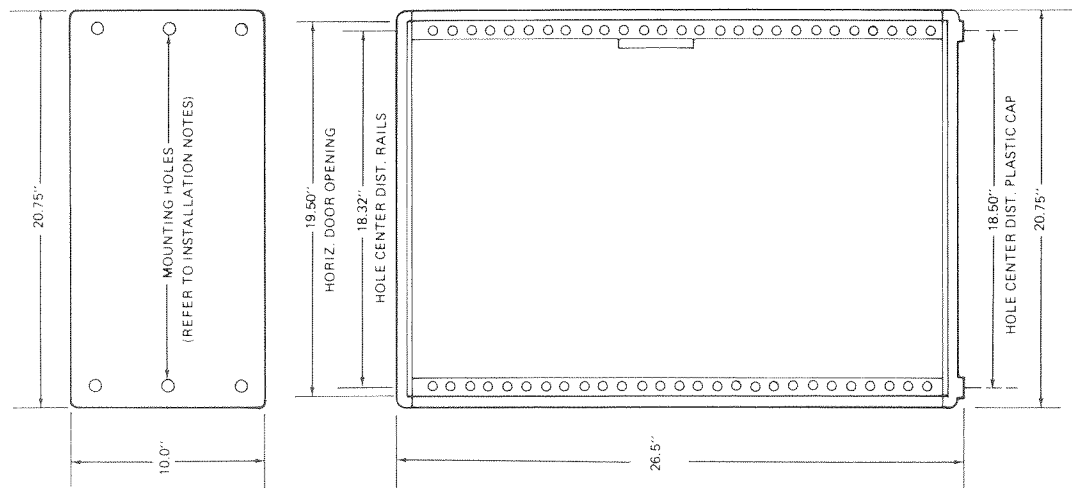

Figure 1. Cabinet Dimensional Details
Refer to Figure 1 for cabinet dimensional details.
- 5.1 Refer to Figure 1 for cabinet dimensional details.
- 5.4 Refer to Figure 1 for mounting and stacking details.